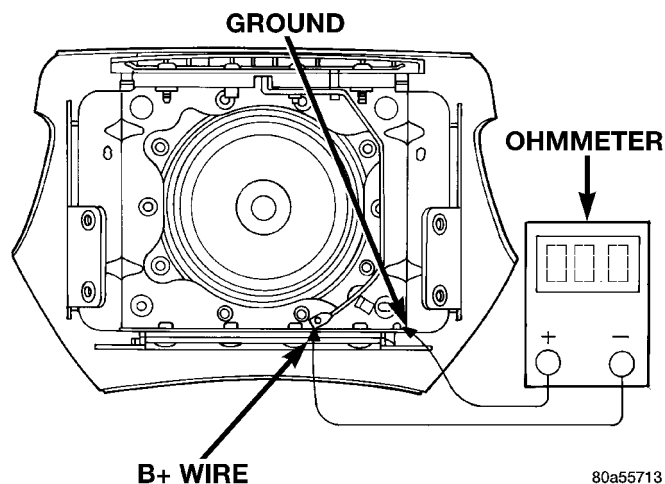

Fig. 6 Test Horn Switch - Driver Airbag Module
- (3) Depress horn switch, should have continuity. If no continuity go to Step 4.
- (4) Test continuity at horn switch, remove the Driver Airbag Module. Refer to Driver Airbag Module Removal and Installation procedures.
- (5) Using ohmmeter, connect one lead to the airbag module ground and the other lead to B+ wire (Fig. 6).
- (6) Depress horn switch, and the meter should show continuity. If no continuity, replace the Driver Airbag Module. If OK, repair as necessary.